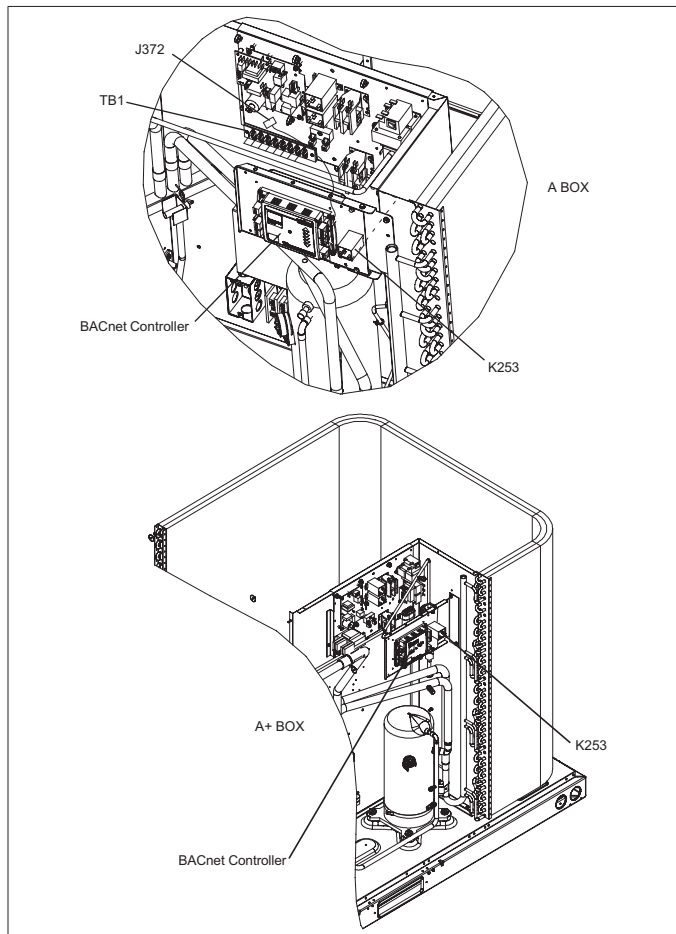

Figure 5. Landmark A- and A+-Boxes
- a. A and A+ Box Units - Position the BACnet assembly in front of control panel and secure the assembly with the provided three #10-16 x 5/8" SMS screws to the compressor wall located at the right-side of control panel, see "Figure 5. Landmark A- and A+-Boxes" on page 4.